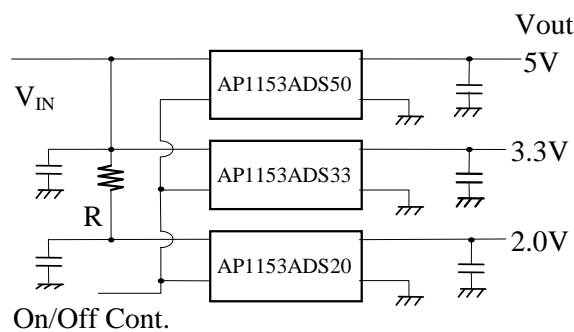

Figure 6. Parallel Connection Example
Figure 6 shows the multiple regulators being controlled by a single ON/OFF control signal. There is fear of overheating, because the power loss of the low voltage side (AP1153ADS20) is large. The series resistor (R) is put in the input line of the low output voltage regulator in order to prevent over-dissipation. The voltage dropped across the resistor reduces the large input-to-output voltage across the regulator, reducing the power dissipation in the device. When the thermal sensor works, a decrease of the output voltage, oscillation, etc. may be observed.